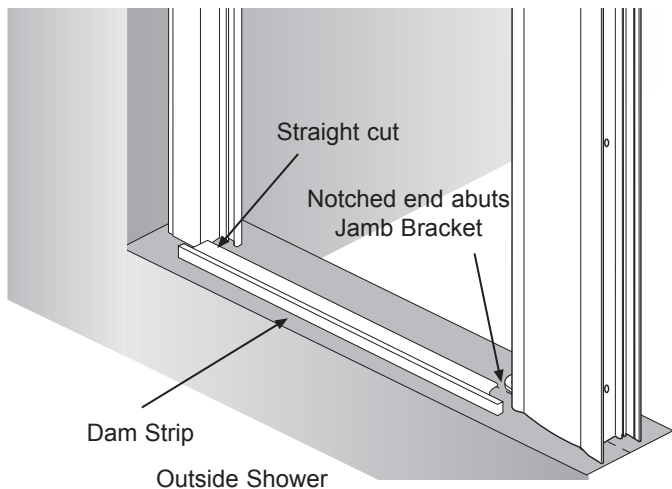

Figure 7
- B. From the outside of the shower enclosure insert the Dam Strip (#8) to meet the Adjustable Pivot Jamb Bracket (#2). Cut the other end of the Dam Strip (#8) straight to fit up against the Slip Jamb Female (#4) (See Figure 7).